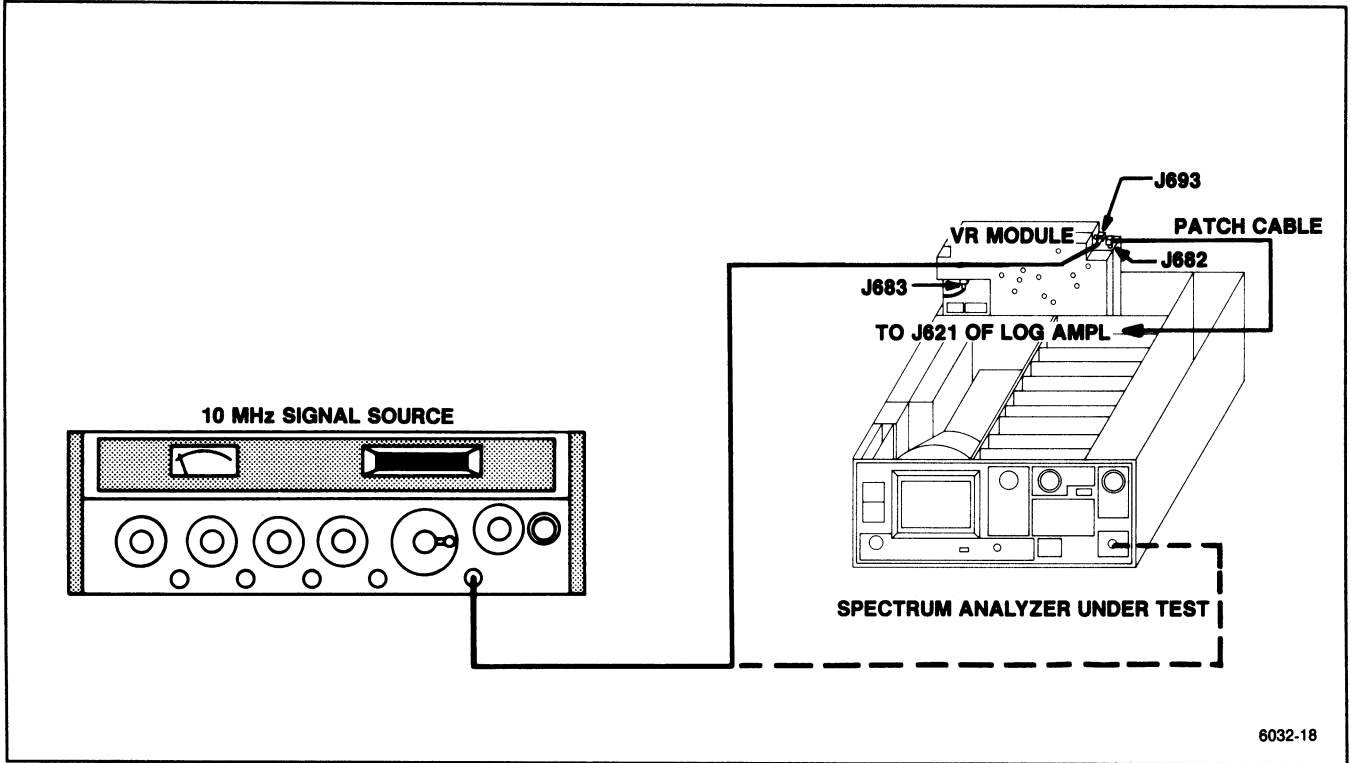
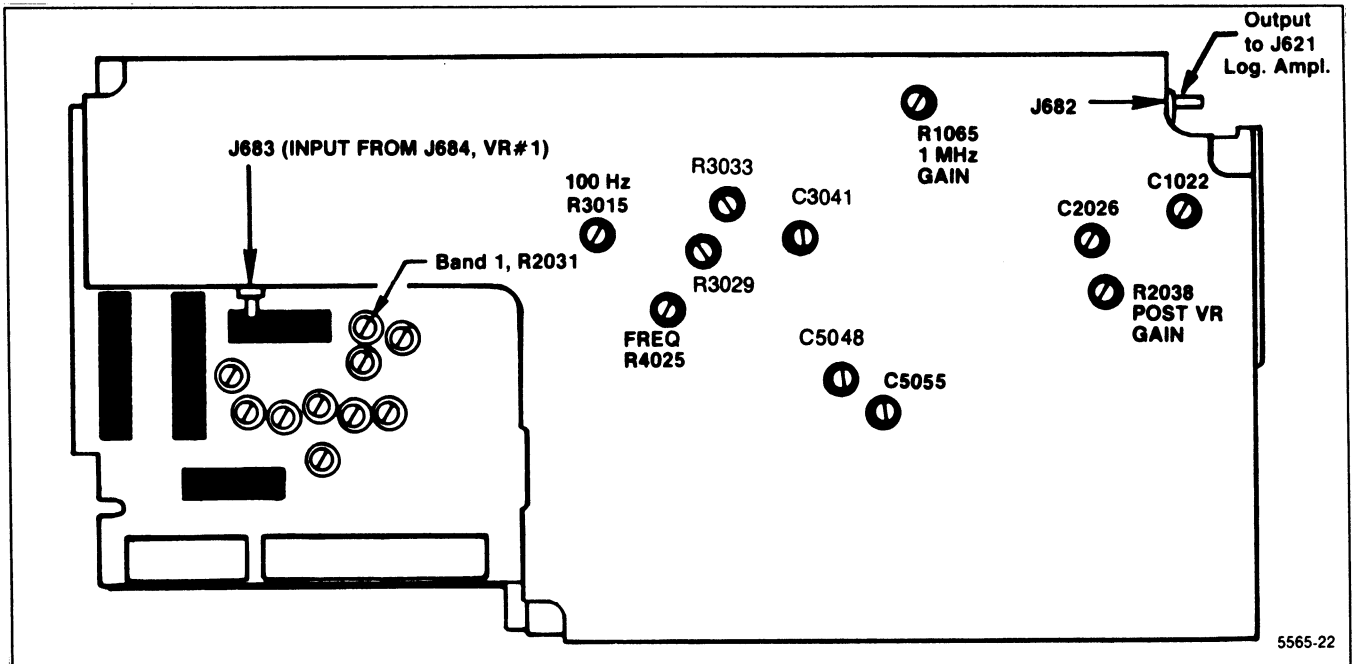
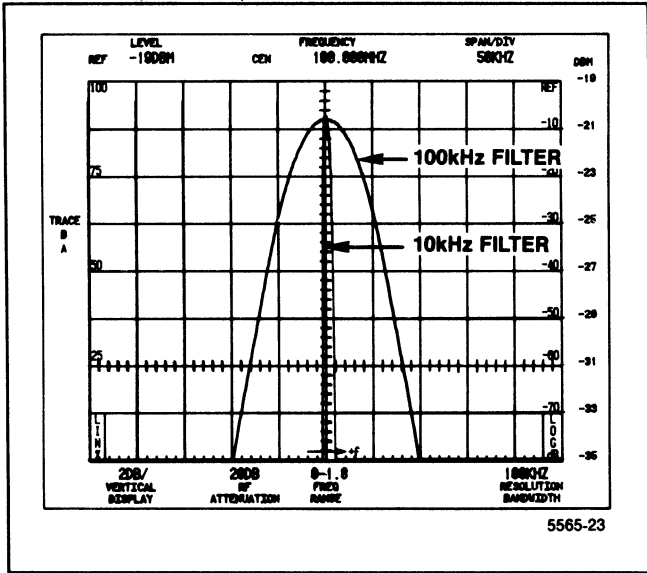
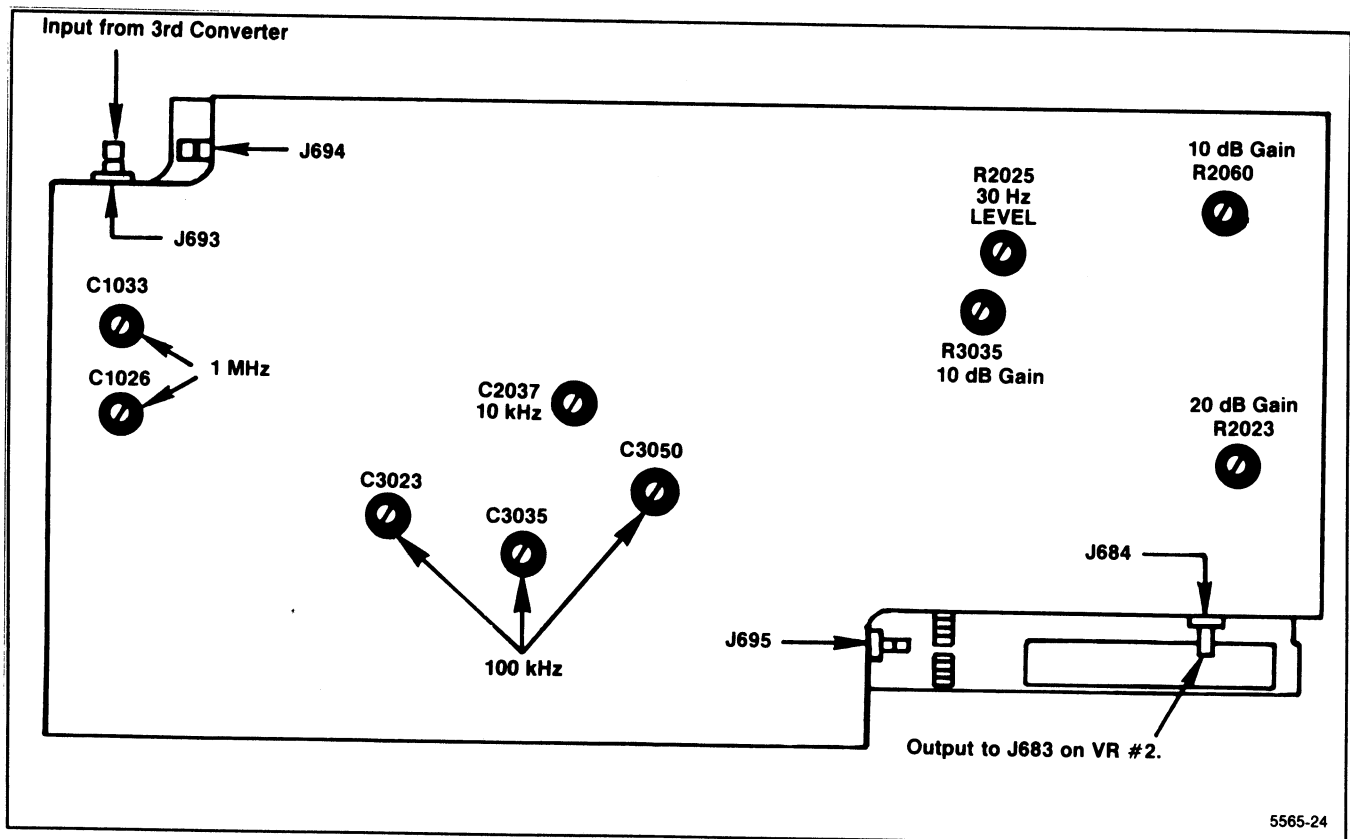

Figure 5-16. Test equipment setup for adjusting the Variable Resolution module.
Figure 5-17. Adjustments on the front of the Variable Resolution module.
Figure 5-18. 100 kHz filter response over 10 kHz filter response.
Figure 5-19. Adjustments on the rear of the Variable Resolution module.
a. Equipment setup is shown in Figure 5-16.
(1) Remove and install the Variable Resolution module on an extender.
(2) Use a Seaelectro male-to-male adapter and coaxial cable to connect the 10 MHz IF output signal, from the 3rd Converter, to the input of the second section (connect between P693 and J683).
(3) Connect the output of the Post VR Amplifier to the input of the Log Amplifier assembly by connecting a cable from J682 on the Variable Resolution Module to J621 on the Log & Video Amplifier assembly (see Figures 5-17 and 5-16).
(4) Apply the CAL OUT signal to the RF INPUT, and set the Spectrum Analyzer controls as follows:
d. Adjust C5055, C5048, and C3041 on the VR 2nd Filter Select board (Figure 5-17) for the best 100 kHz filter response (100 kHz bandwidth, 3 dB down, that is centered about the 10 kHz reference). Refer to Figure 5-18.
g. Adjust C2026 and C1022 (Figure 5-18) for the best 1 MHz response centered about the 10 kHz filter response.
h. Disconnect the 10 MHz third converter IF signal from J683 and reconnect it to J693 (see Figure 5-19). Connect P683 to the input of the Log Amplifier at J621 through a Seaelectro male-to-male adapter and coaxial cable (Figures 5-16 and 5-17).
k. Adjust C2037 (Figure 5-19) for the best 10 kHz response centered about the 1 kHz reference.
Locations of the adjustments are shown in Figure 5-17 and 5-19.
a. Before adjusting the Variable Resolution gain and band leveling, set the correction factors to zero by pressing <SHIFT> 7 and selecting menu item 2 "SET RESULTS TO UNCALED".
b. Test equipment setup is shown in Figure 5-16. Set the Spectrum Analyzer controls as follows:
(1) Remove the cover for the VR 2nd Filter Select board. Disconnect the jumper connector to the input of the Post VR Amplifier (pin JJ).
(2) Apply a 10 MHz, -14 dBm signal, from a 50 ohm signal source, to pin JJ of the amplifier.
(3) Adjust Gain R2038 for a full screen display.
n. Adjust C3050, C3035, and C3023 (Figure 5-19) for the best 100 kHz response centered about the 10 kHz filter reference. o. Set the RESOLUTION BANDWIDTH to 1 MHz, FREQ SPAN/DIV to 500 kHz.
p. Adjust the 1 MHz filter response and centering with C1033 and C1026 in the VR Input board (Figure 5-19). Deactivate SAVE A.
(4) Remove the signal from the input to the Post VR Amplifier and replace the jumper connector to pins JJ at the input to the Post VR Amplifier. Replace the cover for the VR 2nd Filter Select board.
d. Set the front panel AMPL CAL fully ccw and set the Band 1 Gain R2031 on VR Mother board #2 (Figure 5-17) fully ccw.
e. Disconnect P693 (Figure 5-19) and activate MIN NOISE. Apply a 10 MHz,  $-25$  dBm signal, from the signal generator, through a bnc-to-Seaelectro adapter to J693. Set the generator frequency to peak the signal amplitude. (Signal amplitude should be between 3.5 and 6.5 divisions. If signal amplitude is not within these limits it indicates a gain problem in the Variable Resolution module.)
f. If the signal amplitude is over 5 divisions, adjust the Post VR Gain R2038 (Figure 5-17) for a 5 division signal amplitude. If the signal amplitude is less than 5 divisions proceed to part "g" of this step.
board (Figure 5-19) so the signal amplitude is 7 divisions.
i. Change the generator output to  $-45$  dBm, the REF LEVEL to  $-40$  dBm, and adjust the 20 dB Gain R2023 on the 20 dB Gain Step board (Figure 5-19) for a 7 division signal amplitude.
j. Change the generator output to  $-65$  dBm, the REF LEVEL to  $-60$  dBm, and adjust the 10 dB Gain R2060 on the 20 dB Gain Step board (Figure 5-19) for a 7 division signal amplitude.